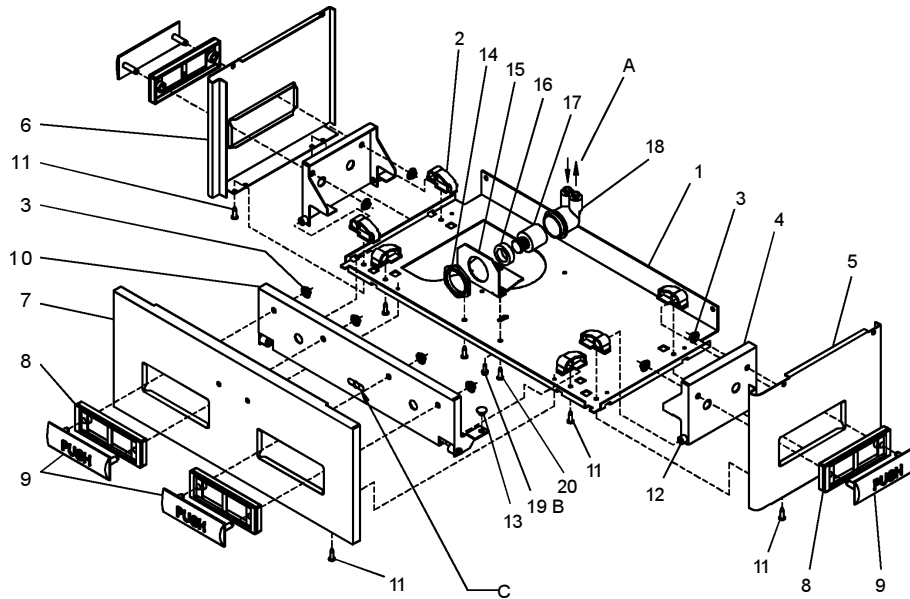

FIG. 3
See Fig. 3 (on Page 3)
- 8) Stream height is factory set at 35 PSI. If supply pressure varies greatly from this, adjust screw, accessible by removing front panel (Item 7, Fig. 3). CW adjustment will raise stream and CCW adjustment will lower stream. For best adjustment, stream should hit basin approximately 6-1/2" (165mm) from bubbler.
- 9) Replace the front panel and secure by retightening four (4) screws.